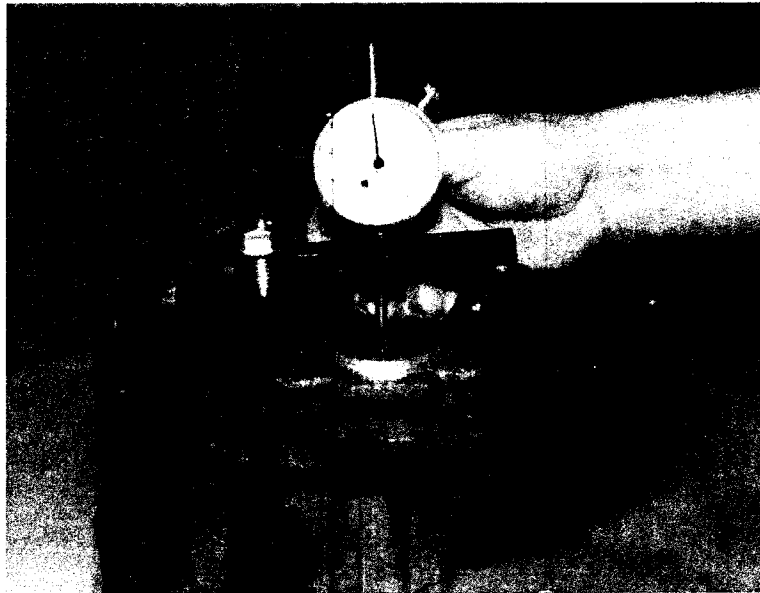
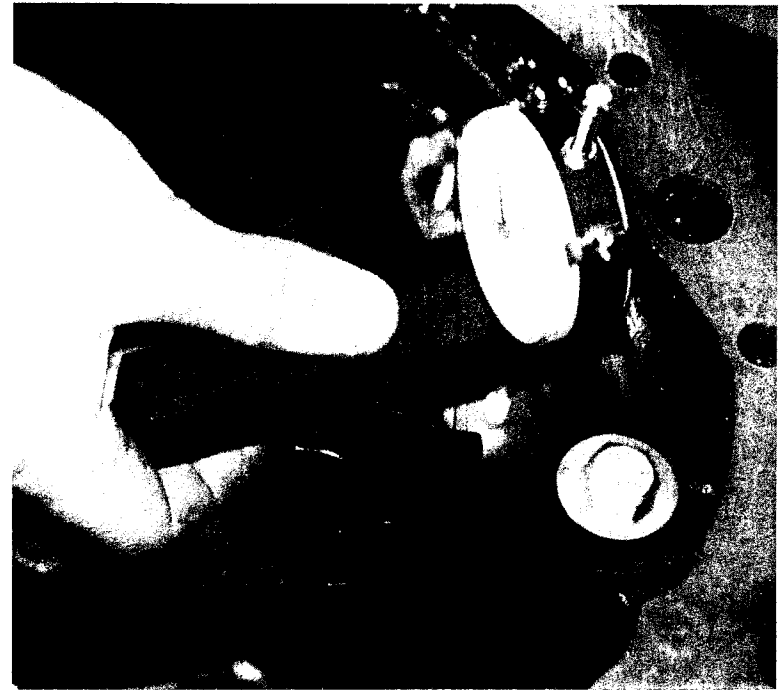

FIGURE 4
FIGURE 5
- A. Bolt the Swing Bars in place of the bearing cap as shown in Figure 5. Place the end of the outer Swing Bar adjacent to the other side of the bearing support.
8. Place the Indicator Holder firmly and squarely on the Swing Bar, and move the Indicator tip around in the carrier bearing bore (also referred to as the "saddle") to obtain the lowest Indicator reading as shown in Figure 4 and Figure 5. Read tenths of an inch with the small pointer, hundredths and thousandths with the large pointer. Record the Indicator reading.